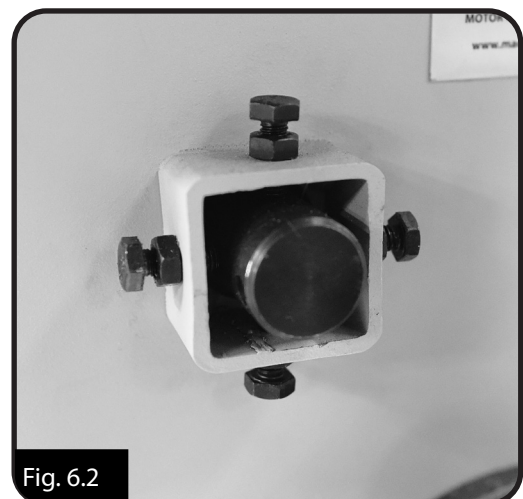

Fig. 6.2
5. The hub on the bottom wheel allows you to adjust the lower wheel to be adjusted in the desired direction. Turning all the bolts clockwise in equal amounts pushes the wheel forward. Turning all the bolts counter clockwise moves the wheel towards the back of the machine. When the screws are used individually, each bolt controls the direction that the wheel tilts. (Fig. 6.2)